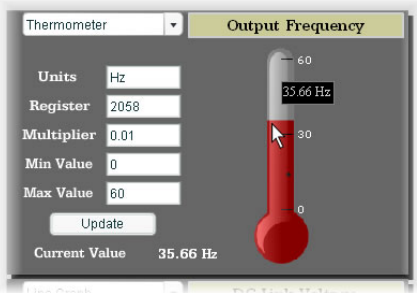

Figure 67: Thermometer
**Thermometer:** Refer to Figure 67. This type of meter implements the universally-identifiable thermometer display format. Hovering the mouse pointer over the red "mercury" portion of the graph pops up a tooltip which displays the current indicated value and units.